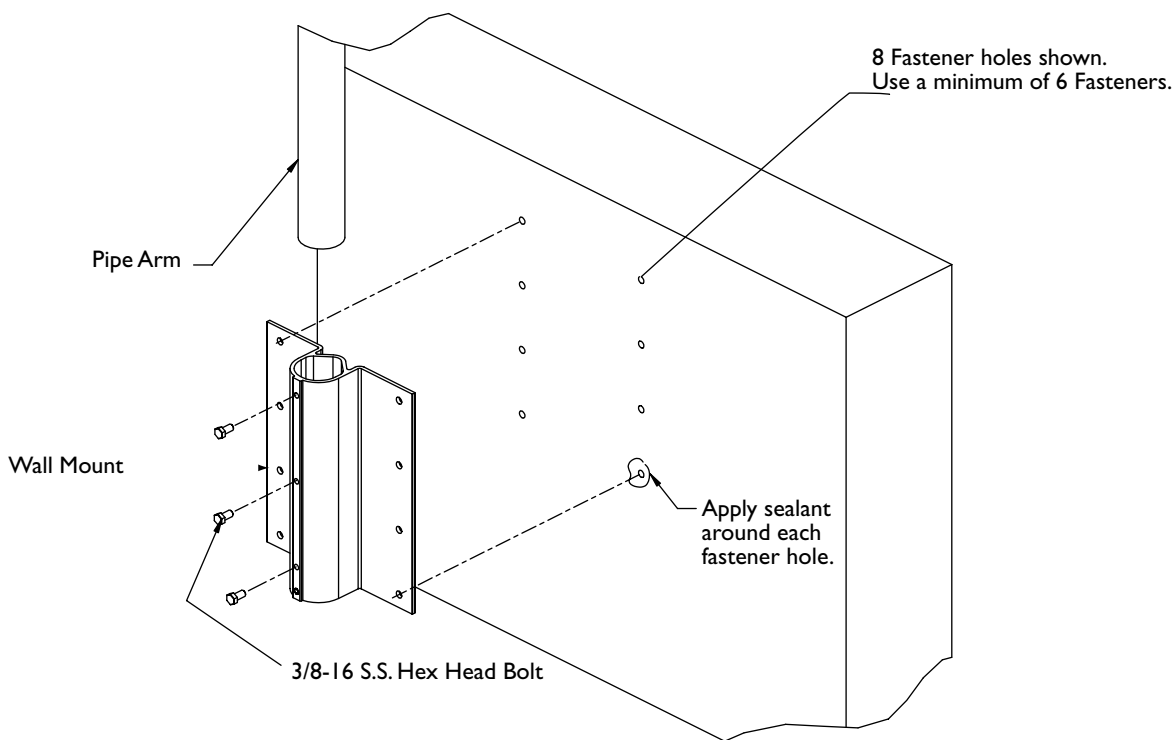

Figure 2: Installation of Wall Mount to a Wall
- Using the wall mounting bracket as a template, position the bracket in the desired location and mark the hole locations on the wall. (see **Figure 2**). Use a minimum of six fasteners (three fasteners for each side of the mounting bracket).
- Apply a good quality sealant around each hole, anchor or stud at the mounting surface (see **Figure 2**).
- Rotate the pipe arm to swing the AutoDome out from the roof and into the desired position. Tighten the three 3/8 inch stainless steel hex bolts (provided, see **Figure 2**) to secure the pipe arm into position.